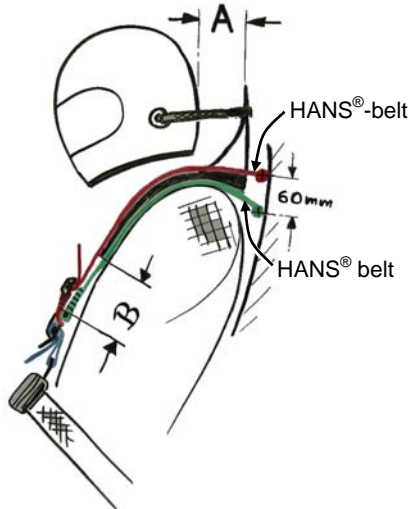

Figure 1
- The total of both numbers (**A** plus **B** in Figure 1) has to be ≥ 180 mm.
- Driver's head/helmet must be pulled forward until the tethers are straight. Measure the distance between the HANS[®] collar and the helmet = measure **A** in Figure 1.
- Subtract **A** from 180 mm = measure **B** in Figure 1. This is the minimum distance which must be achieved between the HANS[®] yoke tips and the belt merge.